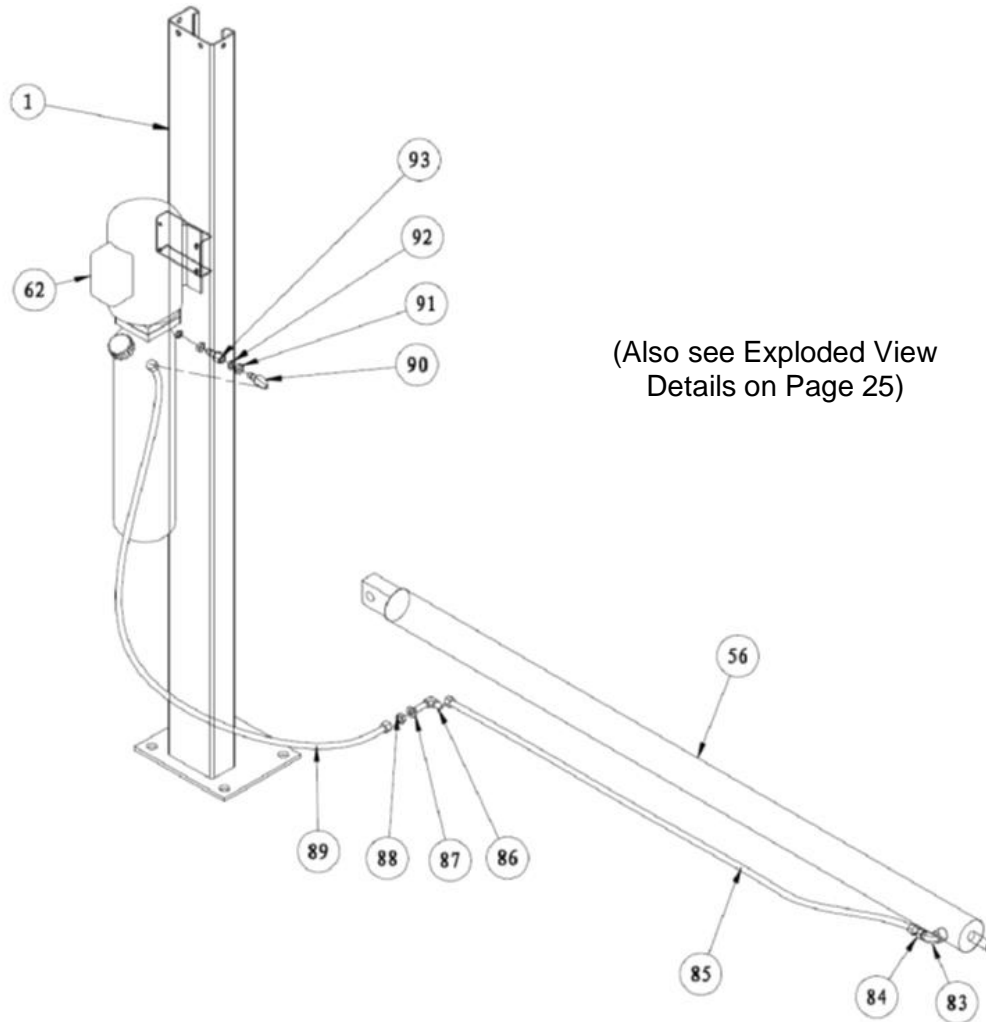

Fig. 10
22. Install the 90 degree Hydraulic Fitting, Nuts & Washer (# 90, 91, 92 & 93) to the high pressure port on the Power Unit, shown in Figure 10. Connect the 115VAC electrical power to the Power Unit.
23. Install the ~~wire~~ braided+Hydraulic Hose (#89) to the Fitting on the side of the Main side Runway and attach the other end to the 90 degree Fitting on the Power Unit, as shown in Fig.10.